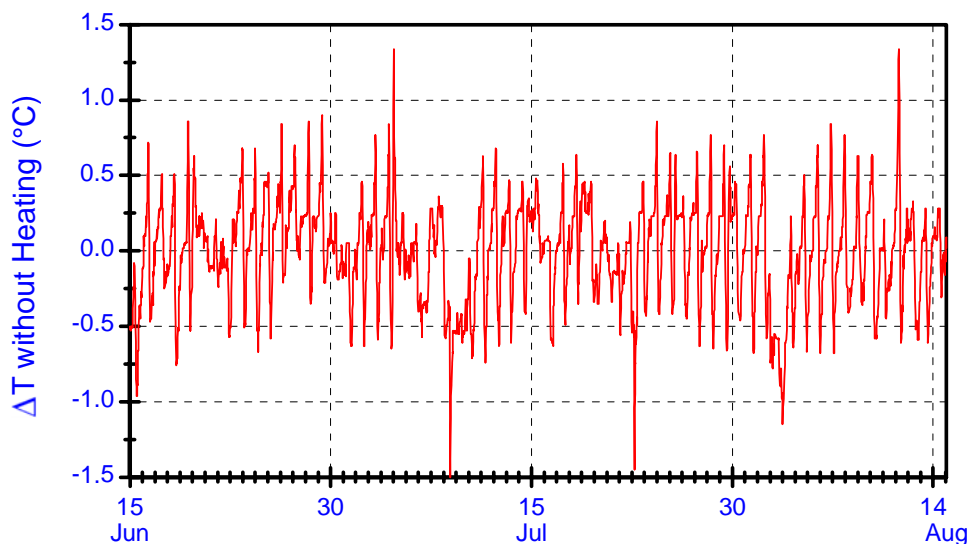

Fig.1 Vertical temperature gradients of a 40-year old spruce tree, measured with a Granier sensor without heating.
2). The technique ignores the effect of natural temperature gradients of the sap-wood being measured, which range between +/- 1.5 ° C (fig. 1) and can cause considerable error in the results (DO and Rocheteau, 2002).